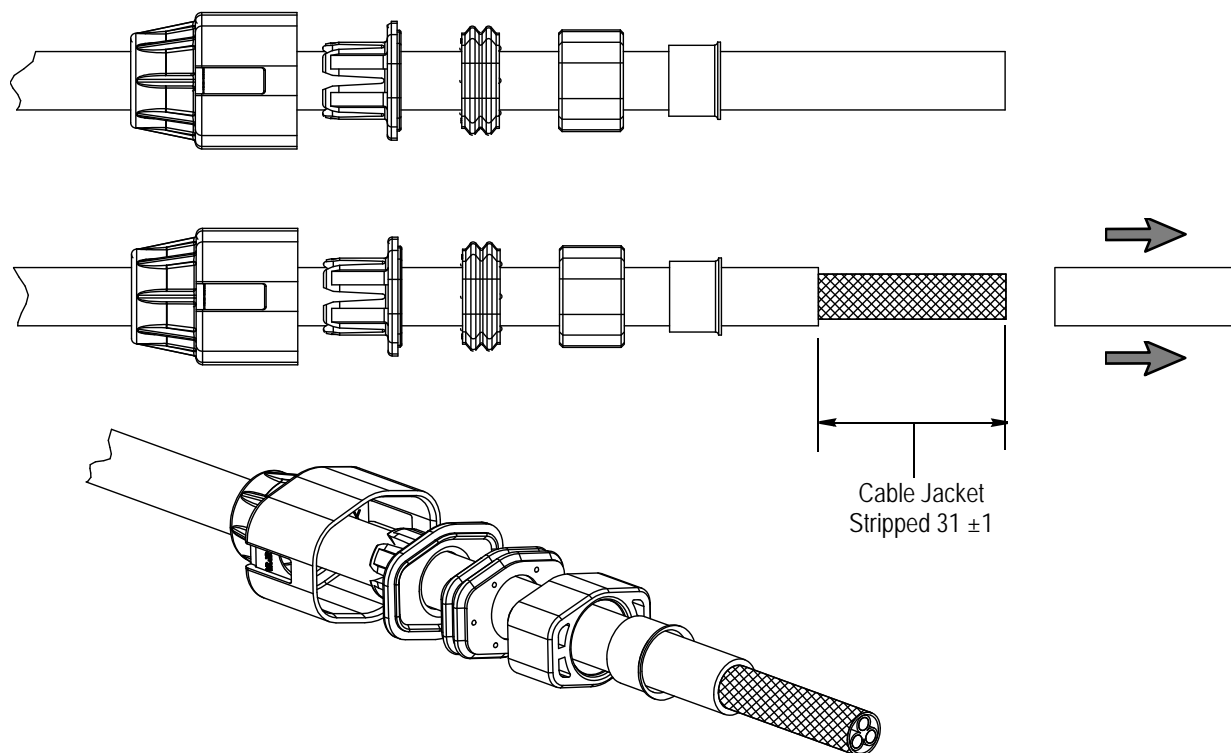

Figure 4
2. Strip and remove the outer cable jacket, and separator (if present), from the end, exposing the braided cable shield as shown in Figure 4.